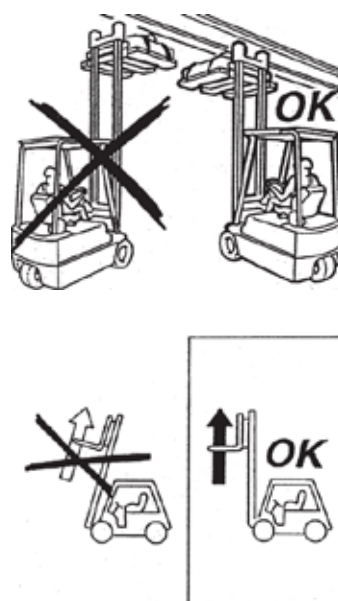

fig.16
6. Lift the pallet beneath the attachment point until it is close to the latter. (fig.16)